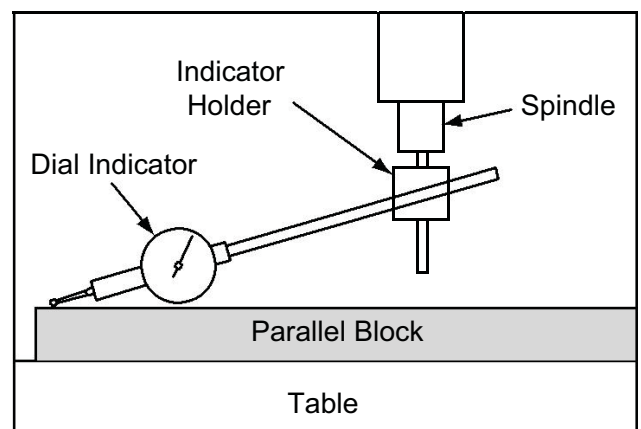

Figure 38. Dial indicator mounted.
4. Install indicator holder into spindle or onto quill, then mount indicator onto it so that the point is as parallel to the block as possible (see the illustration in **Figure 38** for an example).